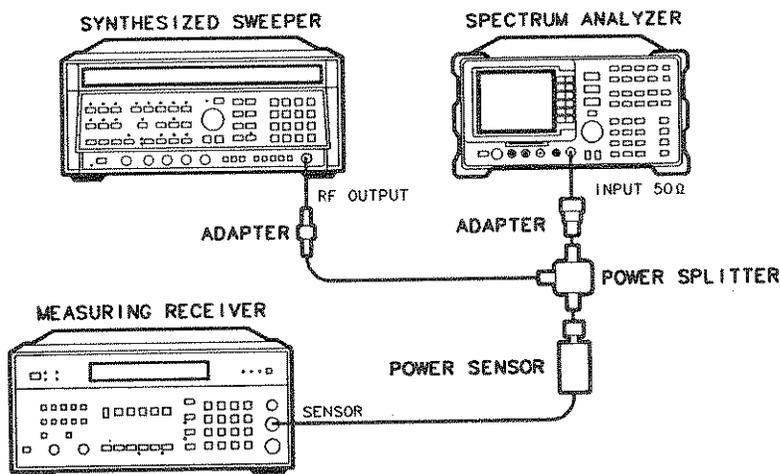

Figure 4-18. Other Input Related Spurious Test Setup
3. Connect the equipment as shown in Figure 4-18. *Option 026:* Connect the power splitter to the analyzer input directly.